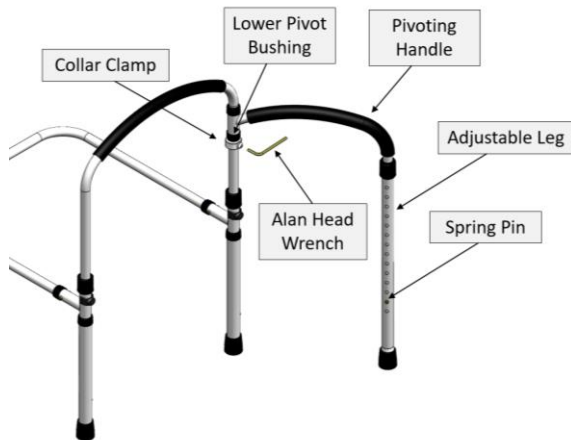

**FIGURE 6**
6. **Adjusting height of Main Handle:** (see Figure 6)
7. **Adjusting height of Main Handle legs:** (see Figure 6)